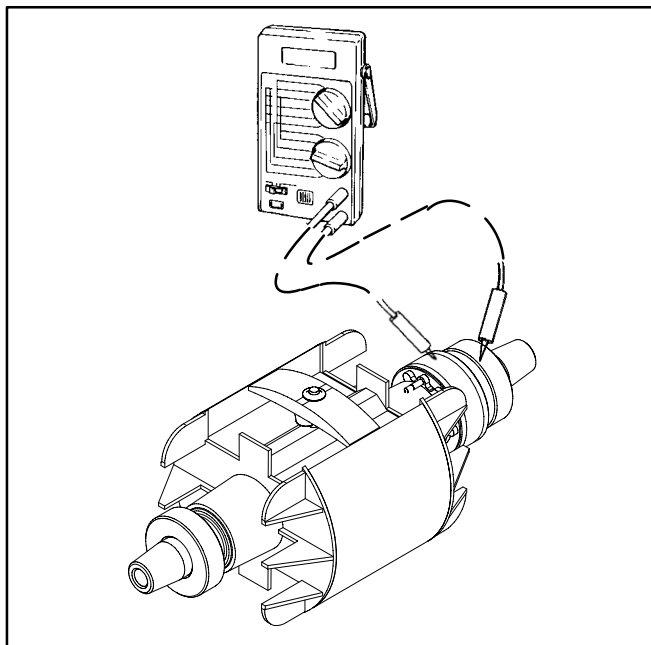

FIGURE 6-3. OPEN OR SHORTED ROTOR TEST
3. Check rotor resistance across the slip rings (Figure 6-3). Replace the rotor if resistance is not as specified.